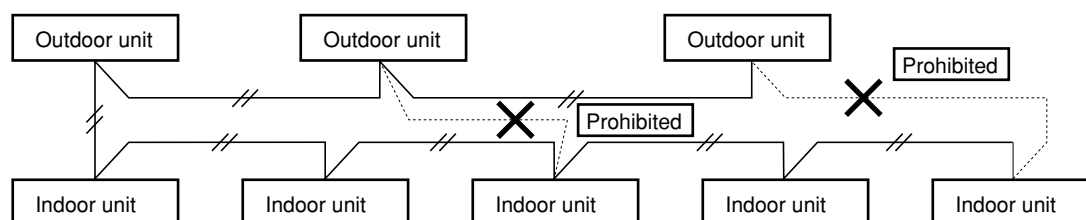

Fig. 5-1
- (2) Do not install the inter-unit control wiring in a way that forms a loop. (Fig. 5-1)